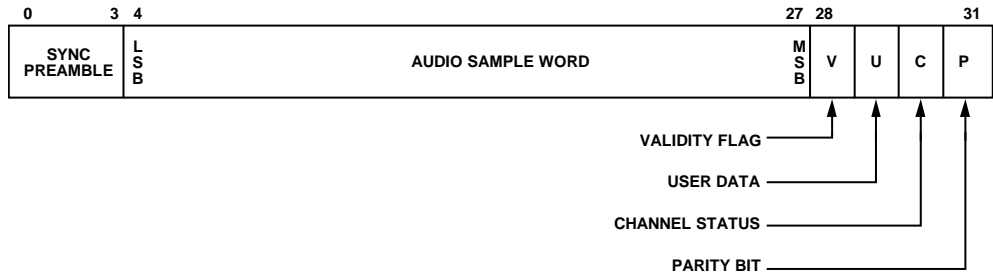

Figure 22. IEC 60958 Subframe Timing Diagram
- A stream conforming to the IEC60958 specification when the part receives audio sample packets with L-PCM encoded data (refer to Figure 22).
- An SPDIF stream conforming to the IEC60958 specification (refer to Figure 22). The following configuration is required to output an SPDIF stream on the HBR output pins: